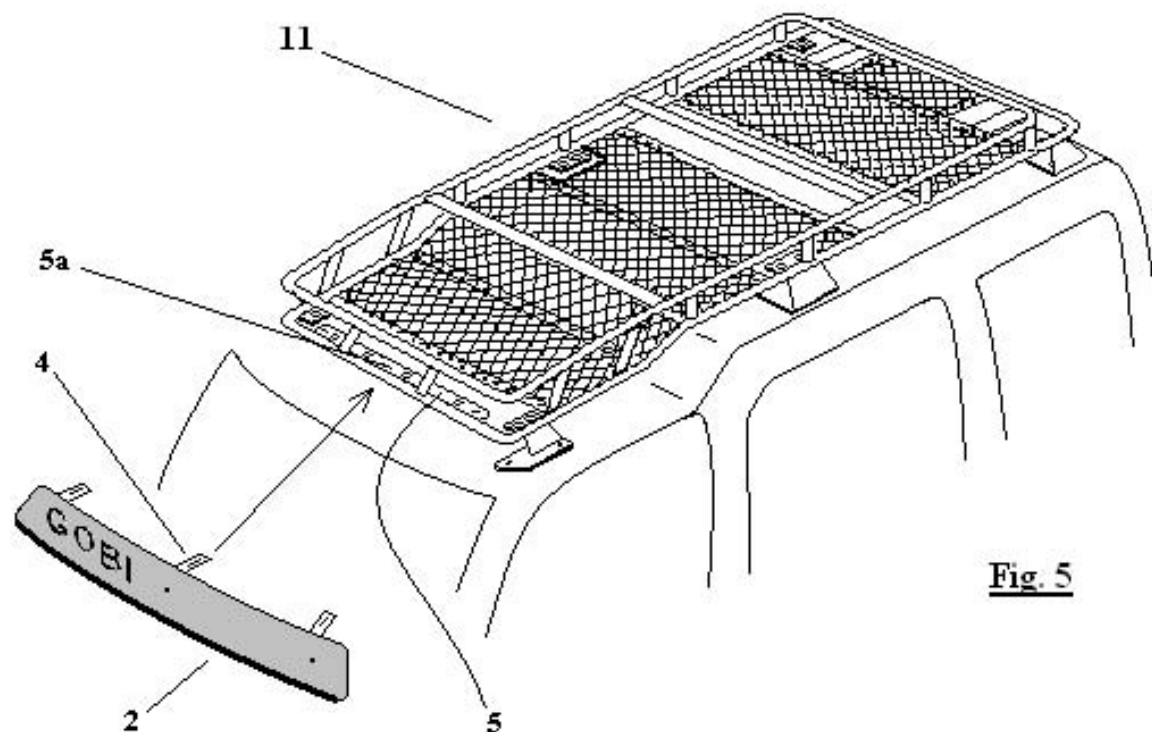
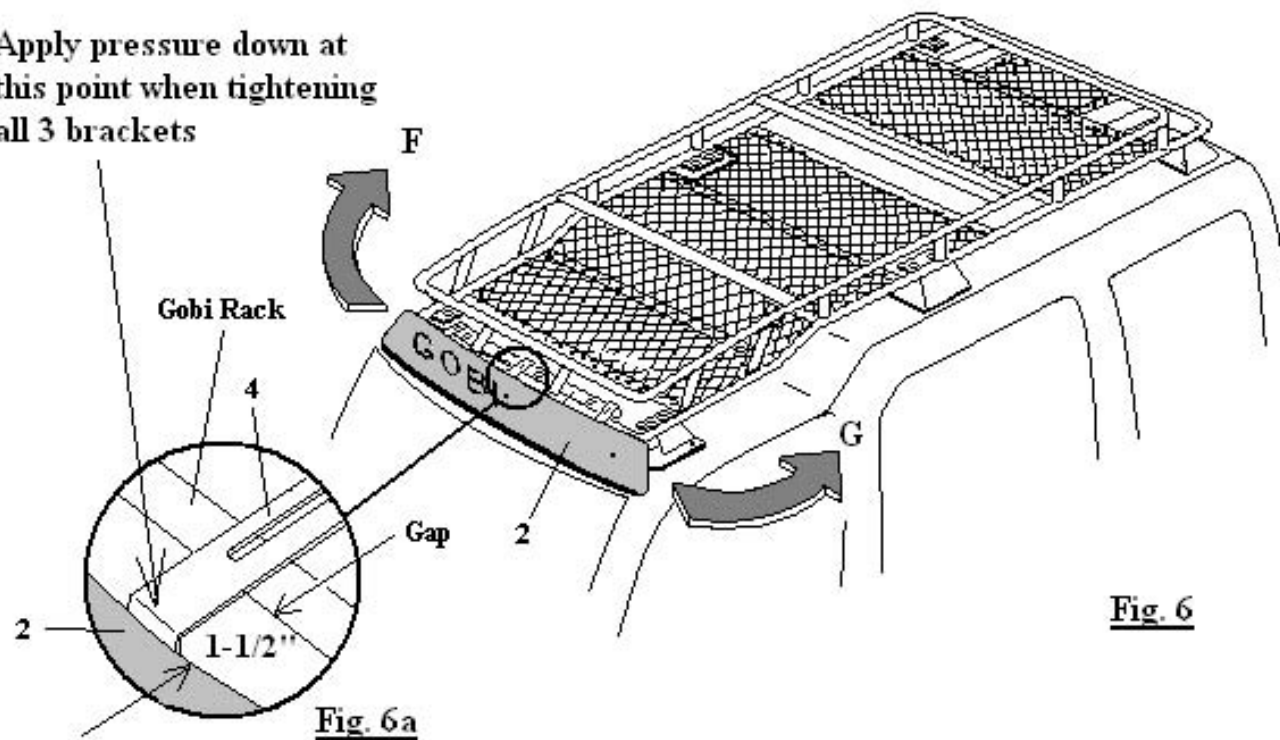

Fig. 5
Fig. 6
- 4- After all mounting brackets have been installed loosen (but leave snug) bolts 8c of both the Front brackets 8b and Rear brackets 8 as shown on page 5 Fig. 1 and 3 to allow for height adjustment. Place roof rack #11 as shown in Fig. 5 page 6 onto all 6 mounting brackets 8, 8a and 8b. Place rubber pads #10 between all mounting brackets and the roof rack welded in Flanges 11a. Continue by installing the 3/8" x 1" bolts, washers and nuts supplied in your kit **Pastic Bag #4** through all welded in Flanges 11a and mounting brackets as shown in Fig.4 page 5. Do not fully tighten at this time leave bolts loose enough for adjustment.
- 7- Refer to page 6 Fig 5 installation of the roof rack farring. Using the hardware found in **Plastic Bag #2** begin by attaching the pre assembled farring to the Gobi roof rack use the center bracket #4 as shown in Fig. 5 page 6 to the #5 front light bar of the Gobi roof rack. Leave a gap of approximately 1-1/2" inch between the Gobi rack and the farring #2 as shown in Fig. 6a page 6 and fully tighten. Continue to either side of the farring and align the #4 farring bracket to the outer slots in the Gobi rack light bar. The slots may seem to be out of place but this is by design, bow the farring back towards the Gobi roof rack as indicated in Fig. 6 F and G install the nut and bolt thru the farring bracket #4 and the #5 Gobi light bar and finger tighten at this time. Apply the same procedure to the opposite side of the farring. Using an additional person have them press directly down and firmly onto the bend of the farring bracket #4 while you tighten down the farring bracket as shown in Fig. 6a this will provide a tight bond between the farring and the vehicle roof. If a small gap should appear between the farring and the roof top loosen up the center bracket then re-tighten or move down the rubber strip to seal the gap.